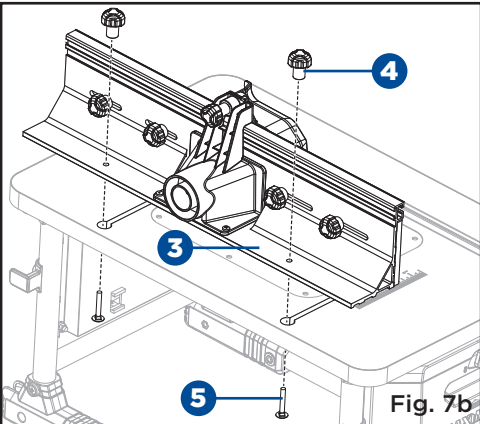

Fig. 7b
- Attach the bit guard (2) to the fence assembly (3) and tighten the bit guard lock knob (1). (Fig. 7b)
- Loosen the fence lock knobs (4) and remove the fence lock knobs (4) and fence bolts (5) from the fence assembly (3).
- Slide fence bolts (5) through the slot in the router table and through the slots in the fence assembly (3).
- Install the fence lock knobs (4) over the fence lock bolts (5).
- Tighten the fence lock knobs (4).